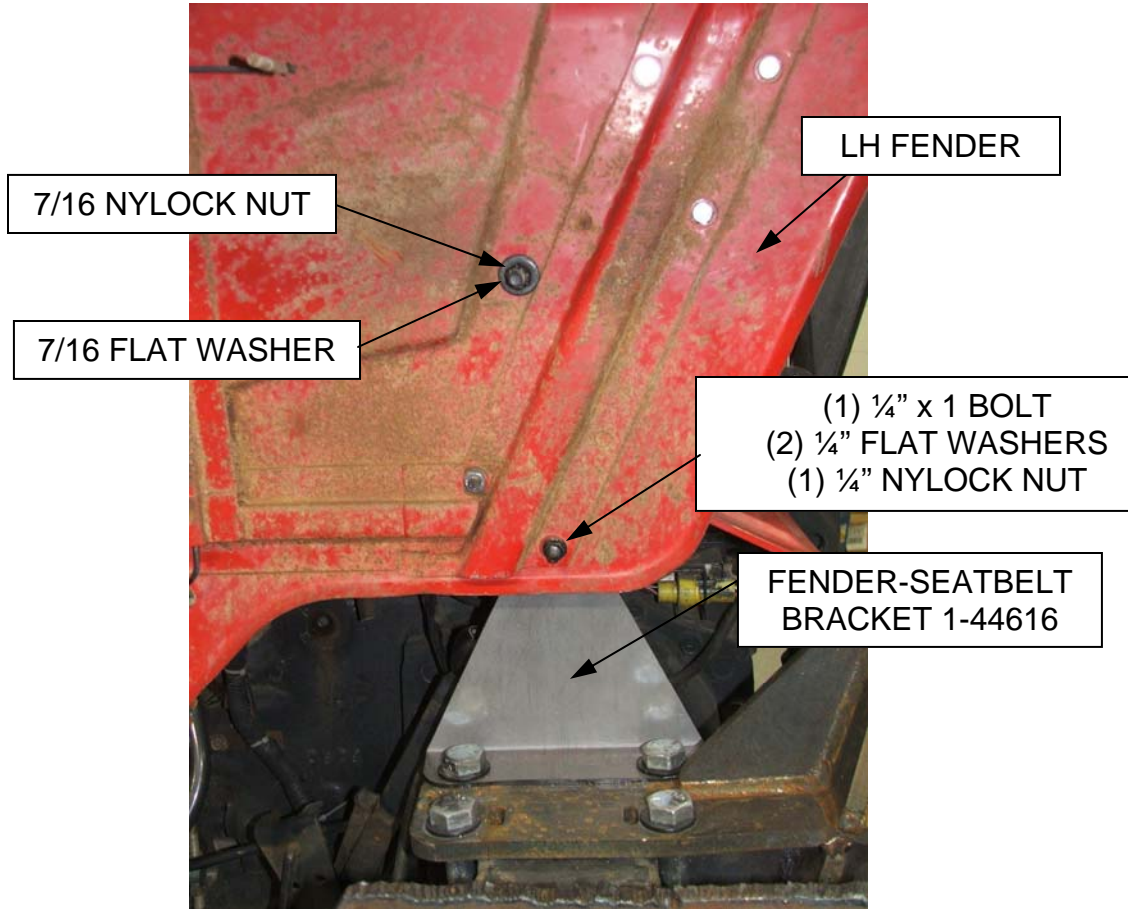

Figure 3
#### **Seatbelt Installation (Refer to Figures 3 & 4)**
- 12) Layout and drill (1)  $\frac{1}{2}$ " diameter hole through each fender as shown in Figure 3.
- 13) Install the seat belt to each fender using (2) 7/16-14unc x 1.25 grade 5 bolts, (4) 7/16" flat washers and (2) 7/16-14unc grade 5 nylock nuts.